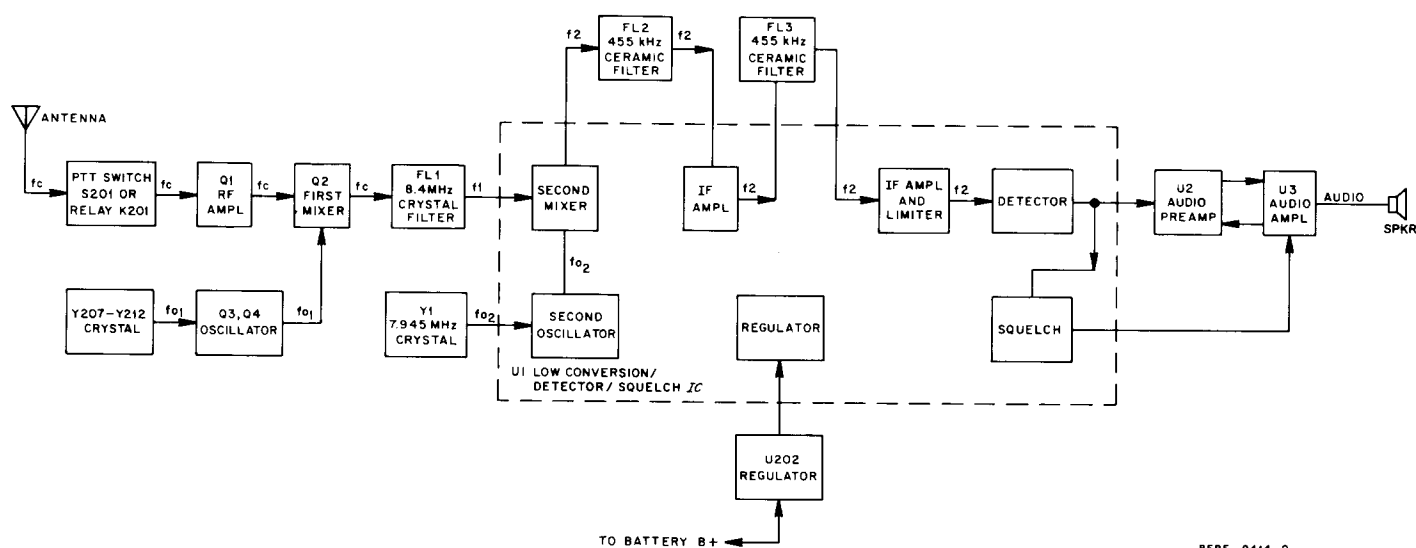

Figure 19. Low Band Receiver Block Diagram
- a. RF Circuits (Refer to Figure 19 and the schematic diagram in Service Manual 68P81017C55)